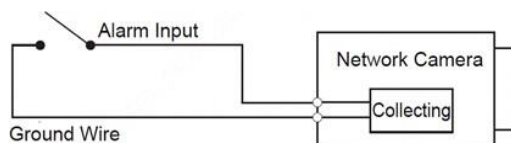

Figure 1-2 Alarm input
1. Connect the alarm input of the device to the alarm input end of the I/O port, see Figure 1-2